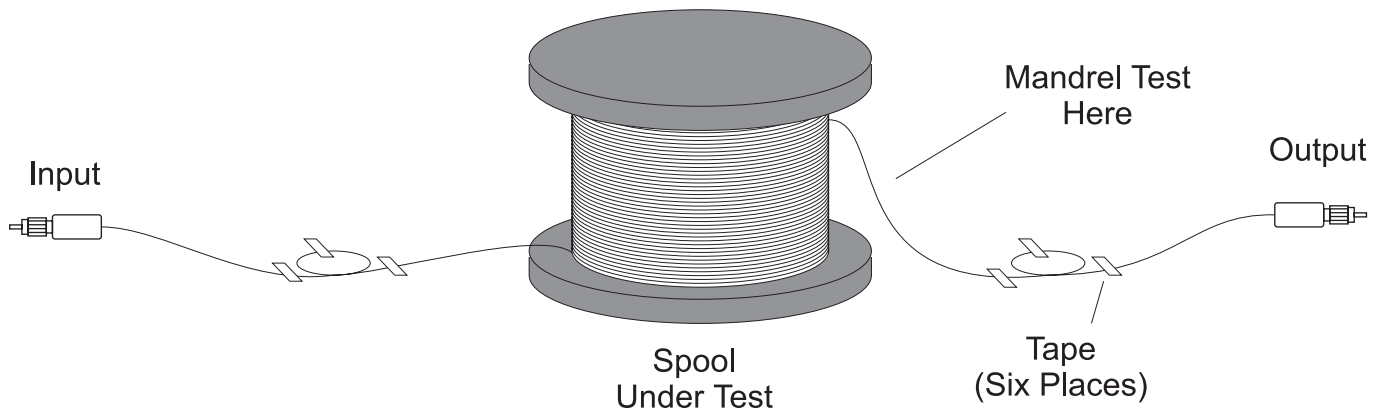

Figure 5: Preparation of A Fiber Spool For Measurement
4. Form a loop about 10cm in diameter in the middle of the input end of the spool. Tape the loop to the table using three pieces of scotch tape. This is done to ensure that the fiber does not accidentally rotate during the test. Do the same thing to the output end of the fiber. The spool should now look the same as Figure 5 below. Attach the fiber to the polarized source and if necessary, adjust the coupler for optimum coupling efficiency